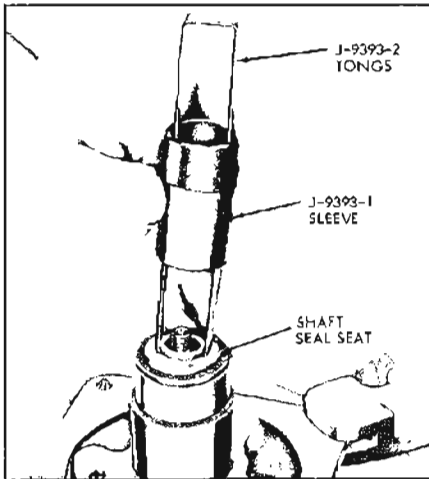

Figure 11-111—Removing or Installing Shaft Seal Seat
3. Remove shaft seal seat, using J-9393-1 and 2 to grasp flange on seal seat. See Figure 11-111. Pull straight out on end of tool to remove.